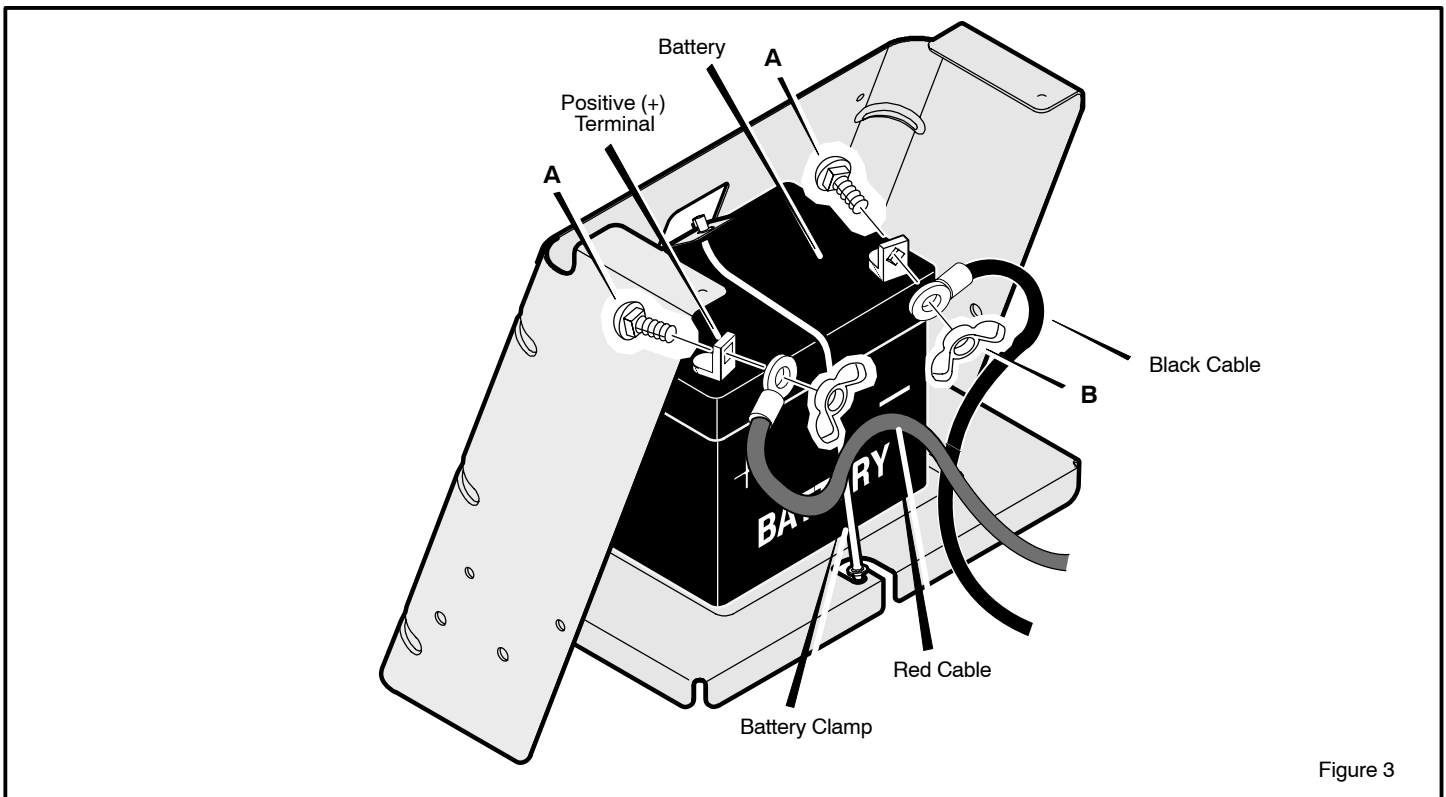

Figure 3
2. Check the top of the battery for the location of the **battery date** (Figure 3).
2. Fasten the **red cable** to the **positive (+) terminal** with the fasteners as shown (Figure 3).